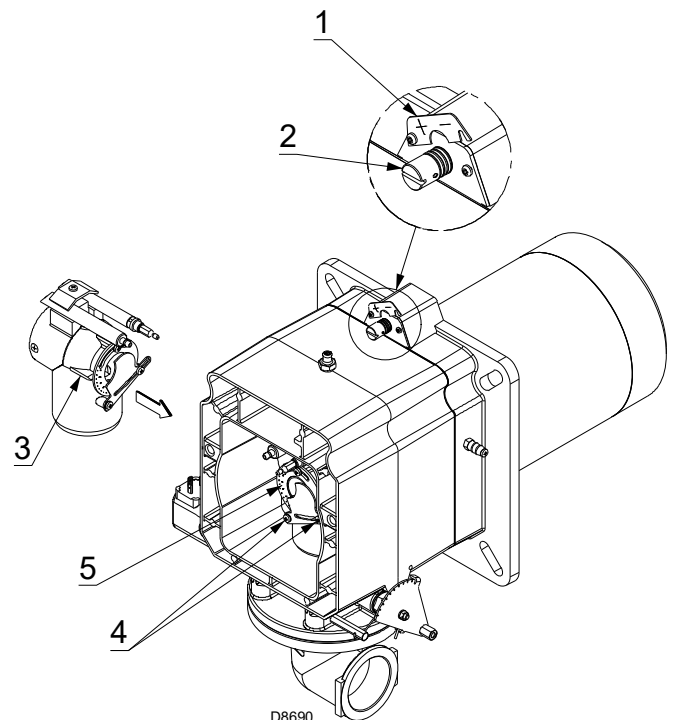

Fig. 14
To facilitate adjustment, loosen the flange screws 1)(Fig. 14), adjust, and then lock.
- Loosen the screws 4)(Fig. 14) and rotate the ring nut 5) until the identified mark aligns with the index 3).